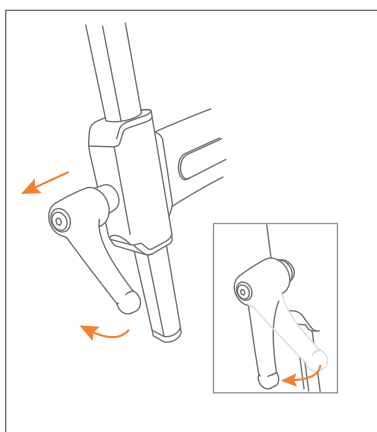

Figure 17: Set the adjustment handle in the right position.
- e. Place the adjustment handles vertically so that they point straight down. You do this by gently pulling the adjustment handle outwards and turning it to the correct position (**Figure 17**).